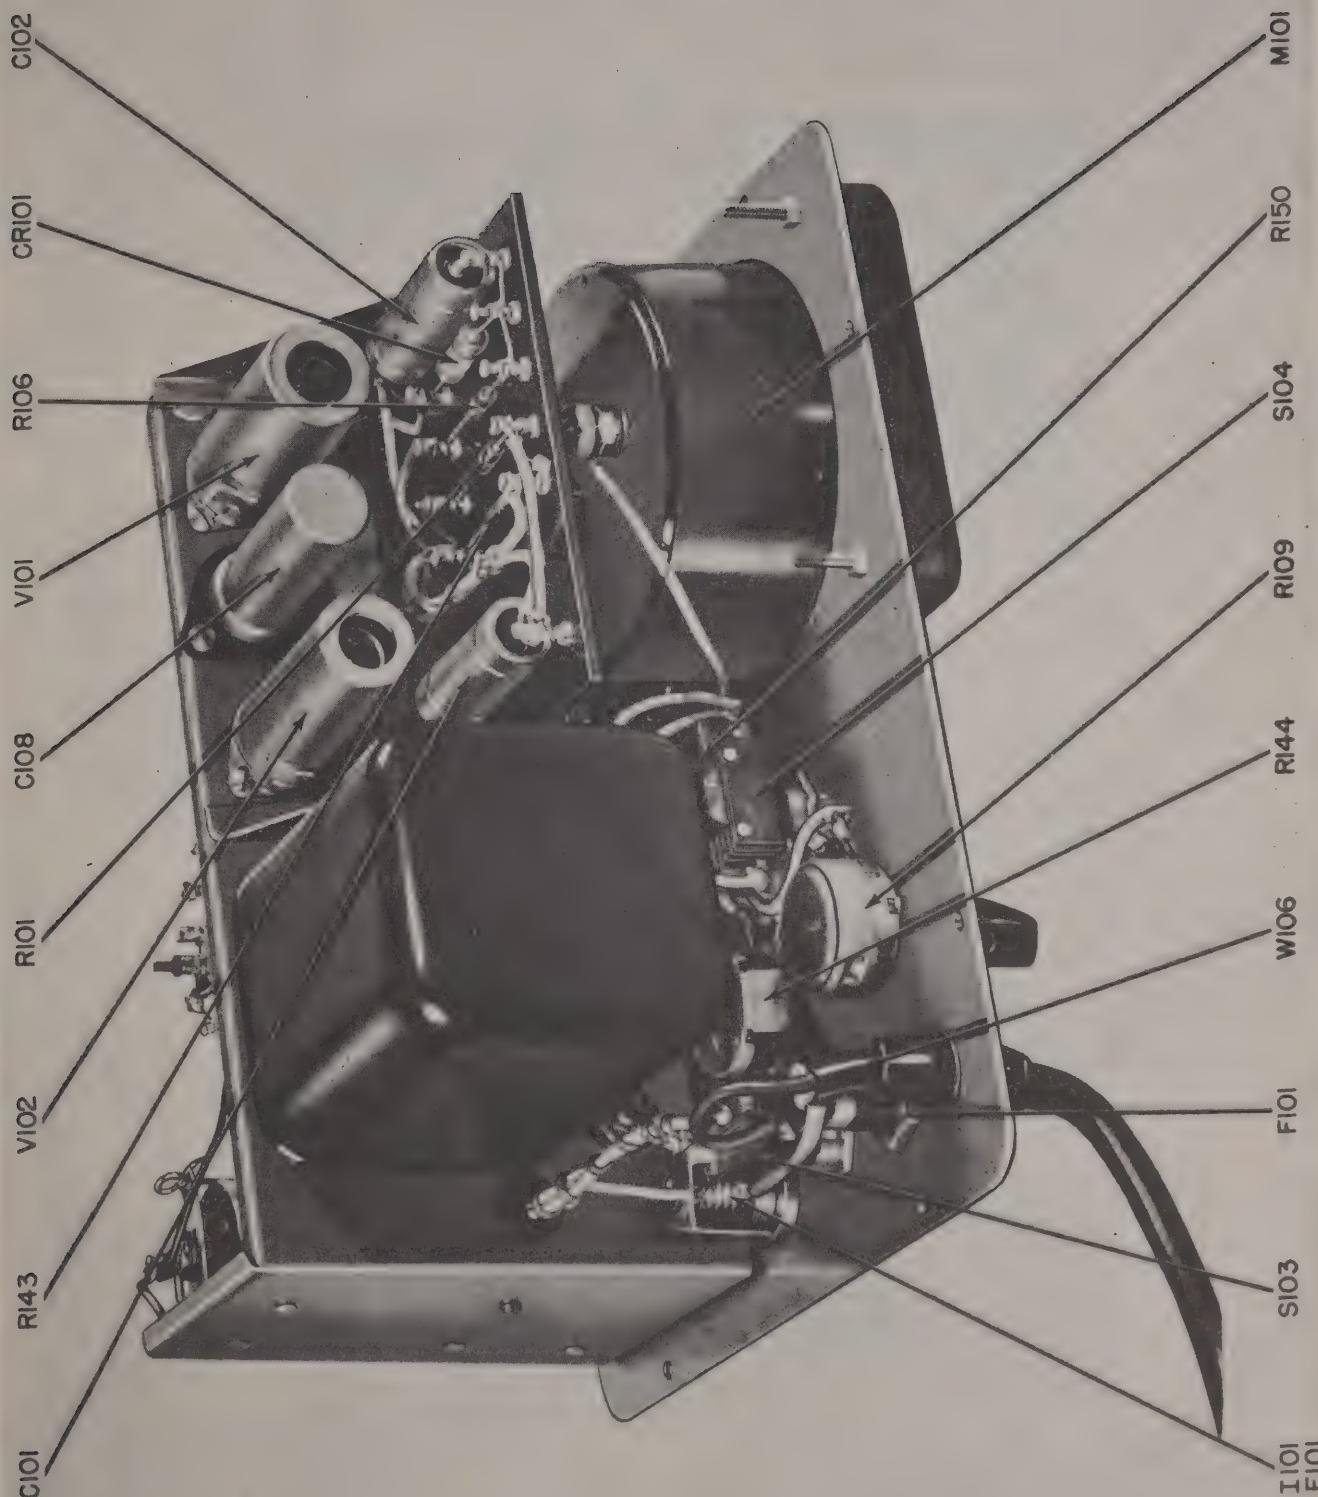

Figure 6-3. Multimeter ME-25A/U, Case Removed, Top View
- Remove the case from the chassis and panel. Figures 6-3 through 6-9 are internal views of the unit showing the location of tubes and component parts.
- Replace any tubes not functioning properly. The location of these tubes is shown in Figures 6-3 and 6-6. Any good tube of the same type as that employed may be used for replacement, but replacement of V101 may necessitate calibration control adjustments.
- Adjust the meter needle to zero with the ZERO ADJUST control R109, Figures 6-3 and 6-6. No external voltage should be applied for this adjustment.
(2) Operate the SELECTOR switch to the AC VOLTS position.
(3) Turn the RANGE switch to any position. The range selected for the adjustment of calibration resistors is not important as long as a satisfactory
(4) If recalibration is required on the 1000 volt AC range, it should be effected by the adjustment of resistance R108. Resistors R105, R106 and R107 should be checked to be sure they are at their approximately correct values.
- Apply a known DC voltage. If the meter does not indicate the proper voltage, adjust potentiometer R145 (See Fig. 6-3 and 6-6) until the meter indicates the applied voltage. This calibration corrects for either +DC or -DC.